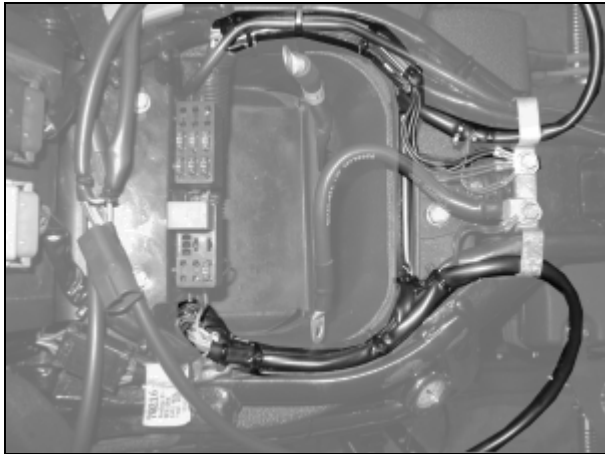

Figure 4. CCWH Position
7. See Figure 4. Remove left bolt and loosen right bolt on wire clamp. Route left and right side of CCWH to right side of shield loom. Route right side of CCWH under right side of wire clamp. (right side harness can be identified by black Deutsch male connector housing and includes two connectors for the throttle roll-off switch). Route left side of CCWH in cross wire trough of the shield loom (left side harness can be identified by